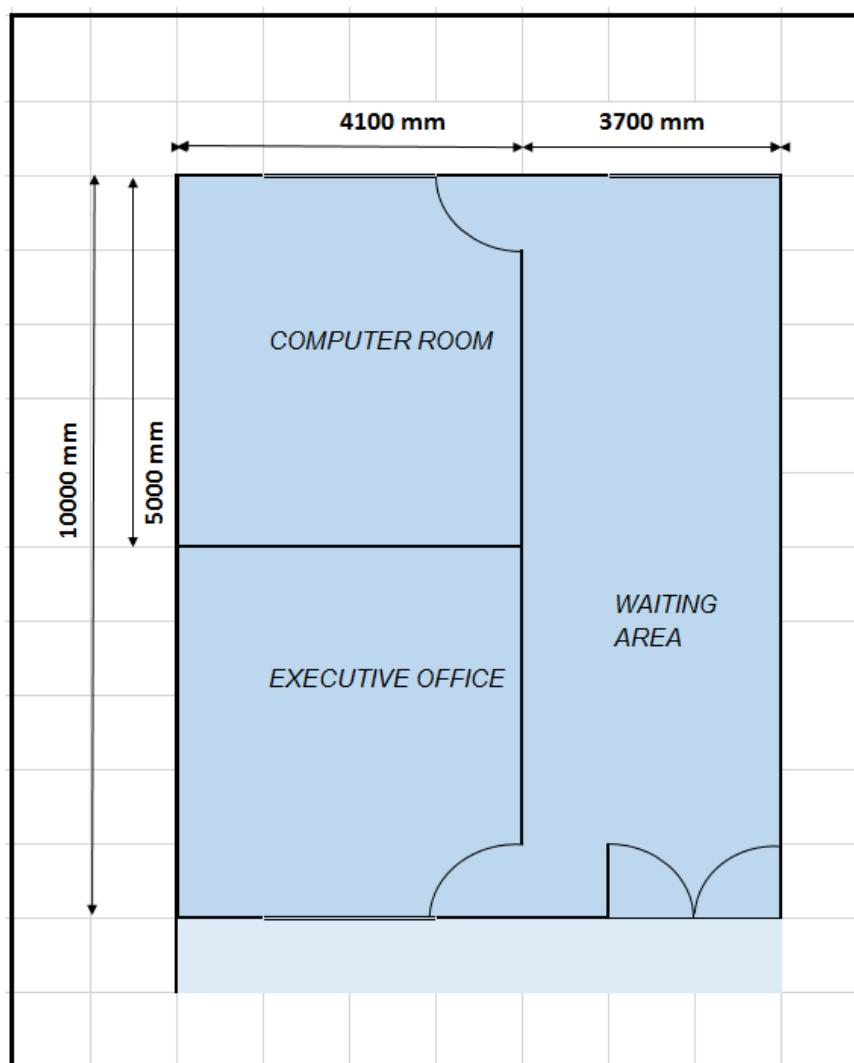

Figure 1/Rajah 1
- (a) An office area measures 10m x 7.8m which include in the Executive Office, Computer Room and Waiting Area as shown in Figure 1. The measurement for ceiling to desk height is 3 meters. The area is to be illuminated to a general level of 300 lux for the Executive Office, 500 lux for the Computer Room and 200 lux for the Waiting Area using the same twin lamp 32 watt VDT Ceiling Recessed luminaires. Each lamp has an initial output of 2,720 lumens. The lamps are operated for 6000 hours before being replaced. Lamps and luminaires are cleaned annually and the room is cleaned every 3 years. Each rooms has a bright interior with room reflectance 70% ceiling, 50% walls and 20% floor.